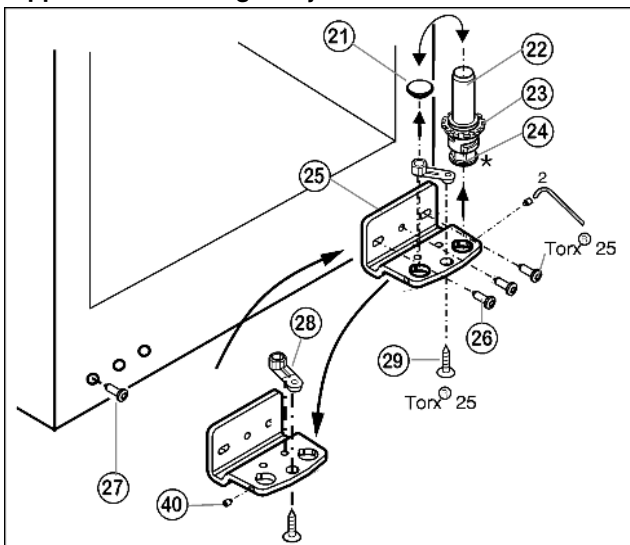

Fig. 6
- ▶ Using the accompanying Allen key, unscrew the threaded pin Fig. 6 (40) by about 1 turn.
- ▶ Turn and lift out the bearing pin Fig. 6 (22) together with the washer Fig. 6 (23) and adjustable-height foot* Fig. 6 (24).
- ▶ Lift out the stopper Fig. 6 (21).
- ▶ Unscrew Fig. 6 (26) the turn hinge Fig. 6 (25).
- ▶ Fully unscrew the threaded pin Fig. 6 (40) and screw it in on the opposite side, at the turn hinge, until it is flush outside with the turn hinge.
- ▶ Unscrew Fig. 6 (29) the bearing element Fig. 6 (28) transfer it to the opposite location hole of the turn hinge and screw it firmly into place.
- ▶ Re-insert the stopper Fig. 6 (21) into the other hole.
- ▶ Undo the screw Fig. 6 (27) and transfer it to the opposite side.
- ▶ Screw the turn hinge Fig. 6 (25) firmly into place on the new hinge side, possibly using a cordless screwdriver (with 4 Nm).
- ▶ Re-insert the bearing pin Fig. 6 (22) together with the washer and adjustable-height foot*.
- ▶ Tighten the threaded pin Fig. 6 (40).
- ▶ Place the door from above onto the lower bearing pin Fig. 6 (22).
- ▶ Align the door to the appliance housing by way of the two oblong holes in the bottom turn hinge Fig. 6 (25). To do so, unscrew the middle screw.